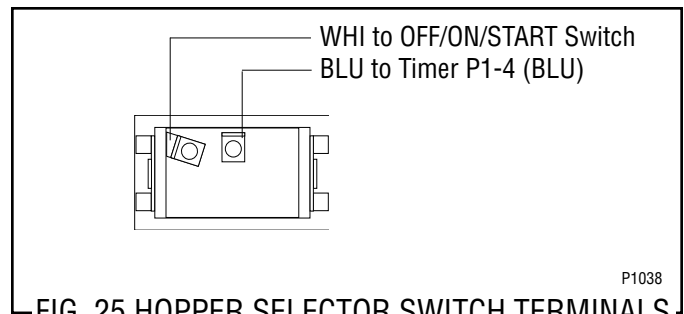

FIG. 25 HOPPER SELECTOR SWITCH TERMINALS
3. Check that the switch is installed properly, FIG. 25.
4. Refer to Fig. 25 when reconnecting the wires.